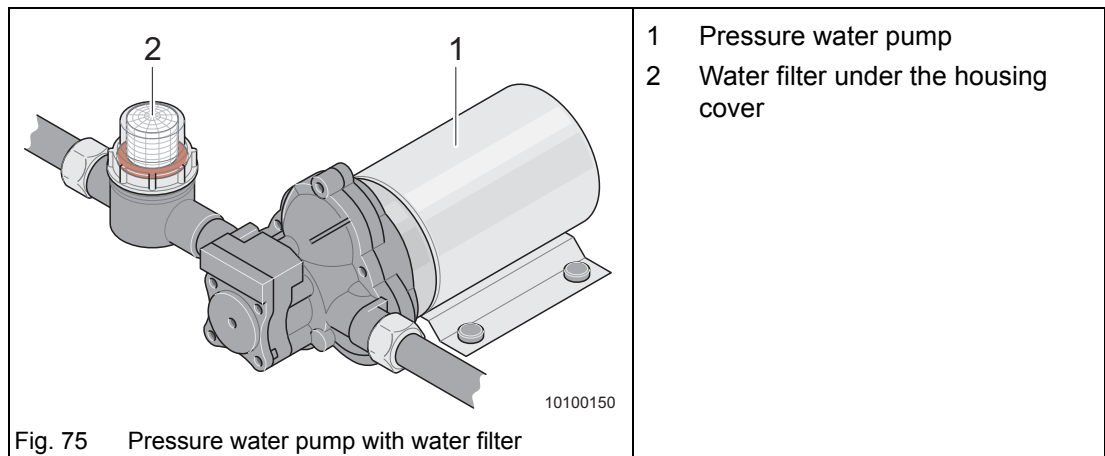

Fig. 75 Pressure water pump with water filter
The vehicles are fitted with a pressure water pump (Fig. 75/1) depending on the model. The pressure water pump can be installed together with a water filter (Fig. 75/2).
- Lay an absorbent cloth under the water filter (Fig. 75/2).